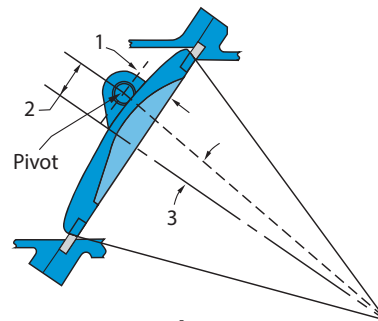
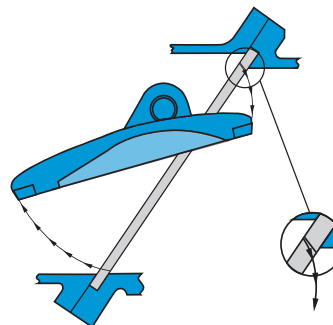

Figure 4
Figure 5
Leak tight seating and long life are achieved by utilizing triple offset seating geometry. The disc pivot is offset from both the face of the seat (1) and the centerline of the seat (2). These offsets, together with the inclined offset of the conical seat (3), provide non-binding, self-releasing seating (Figure 4). The offsets allow the disc edge to lift off the seat during opening without sliding or binding (Figure 5).